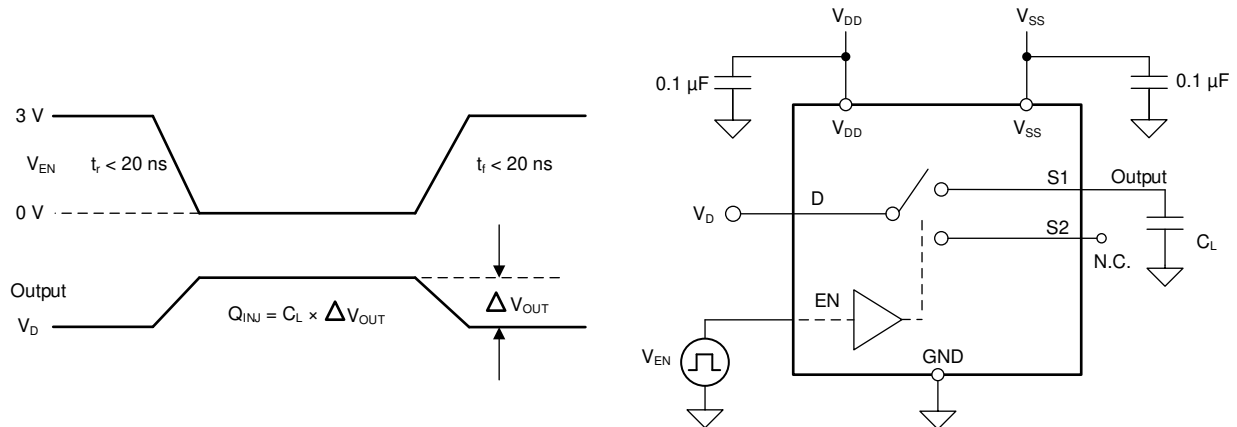

图 7-9. Charge-Injection Measurement Setup
The TMUX6219-Q1 has a transmission-gate topology. Any mismatch in capacitance between the NMOS and PMOS transistors results in a charge injected into the drain or source during the falling or rising edge of the gate signal. The amount of charge injected into the source or drain of the device is known as charge injection, and is denoted by the symbol Q_C . 图 7-9 shows the setup used to measure charge injection from source (Sx) to drain (D).